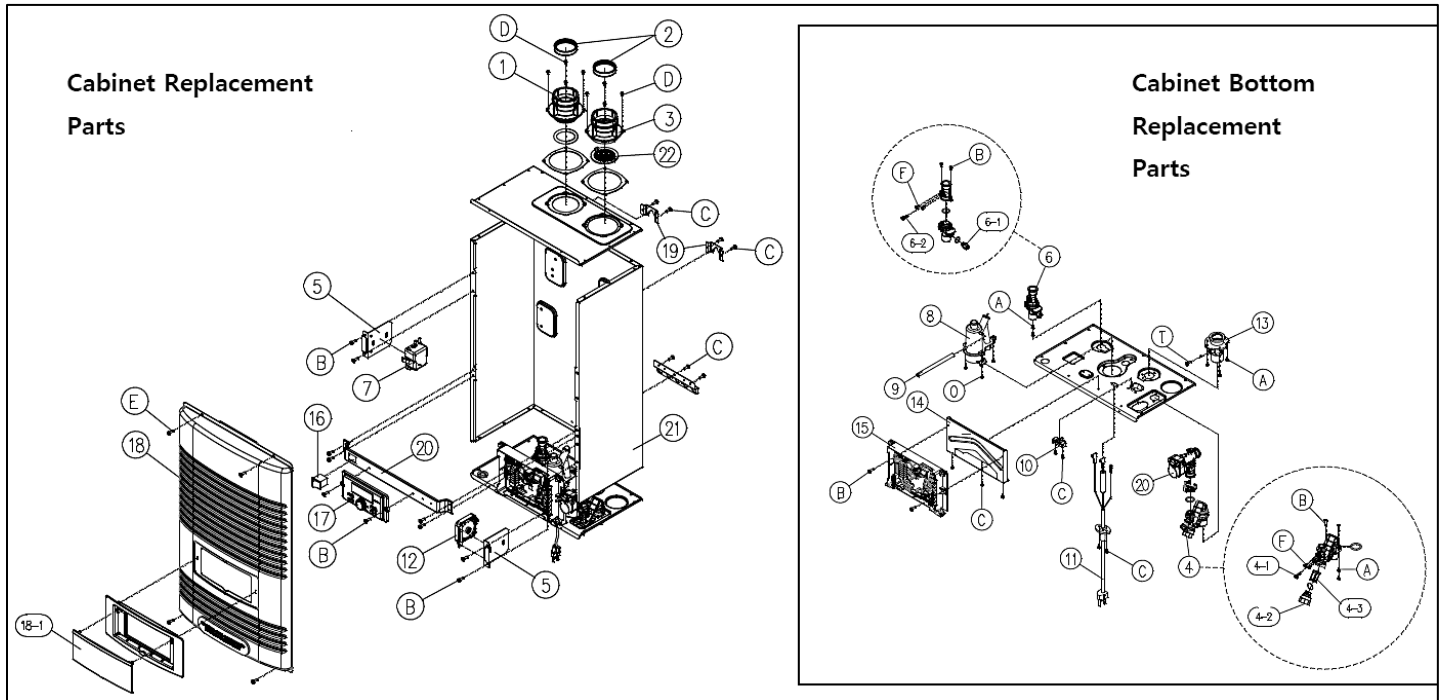

Figure 58 – 150 Model Cabinet Replacement Parts
2. Close the shutoff valves on both hot water outlet and cold water inlet lines (V1 and V2). See Figure 58.
3. Connect one hose (D1, Figure 58) to the valve (V3) and place the free end in a bucket. Connect one of the hoses (D3) to the circulation pump outlet and the cold water inlet line to valve V4. Connect the other hose (D2) to the circulation pump inlet and place the free end in the bucket.